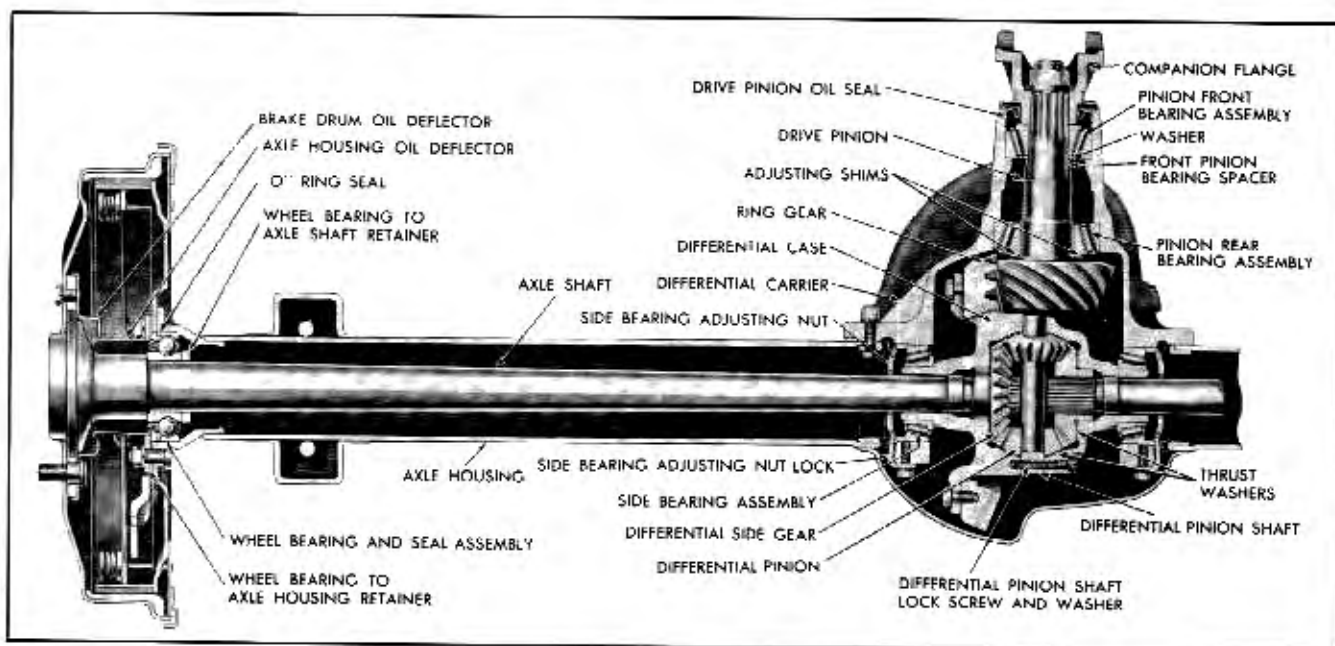
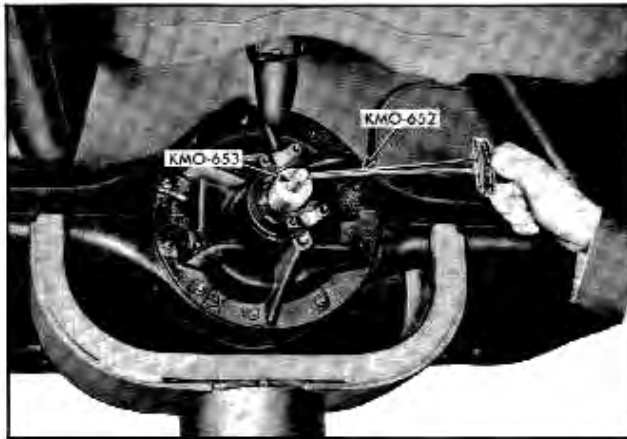

Fig. 4-2 Differential Carrier and Axle Assembly—Cross Section
Fig. 4-3 Checking Pinion Bearing Preload With Torque Wrench KMO 652
The drive pinion is mounted on pre-loaded taper roller bearings (Fig. 4-2). The inner race of the rear bearing is a light press fit on pinion; the inner race of the front bearing is from a light press fit to a close sliding fit on pinion stem. The outer race of each bearing is pressed against a shoulder recessed in the carrier. Adjustment of the pinion along its axis is obtained by shims placed between the pinion rear bearing inner race and the pinion head. A splined companion flange is fastened to the pinion stem by a special self-locking nut which bears against a special washer. Tightening the pinion nut compresses a spacer (Fig. 4-3) which bears against inner race of front bearing. This spacer is used to preload pinion bearings and to prevent the inner race of front bearing from turning on the pinion stem.
3. Using pound inch Torque Wrench KMO-652 with Adapter KMO-653 and socket placed over drive pinion nut, turn pinion two or three revolutions to ensure free movement, and then take a torque reading while rotating pinion to measure bearing preload (Fig. 4-3). Record reading. **NOTE:** Additional clearance to check preload can be obtained between differential and body by raising body a few inches by means of a jack or stand placed under frame rear cross member.